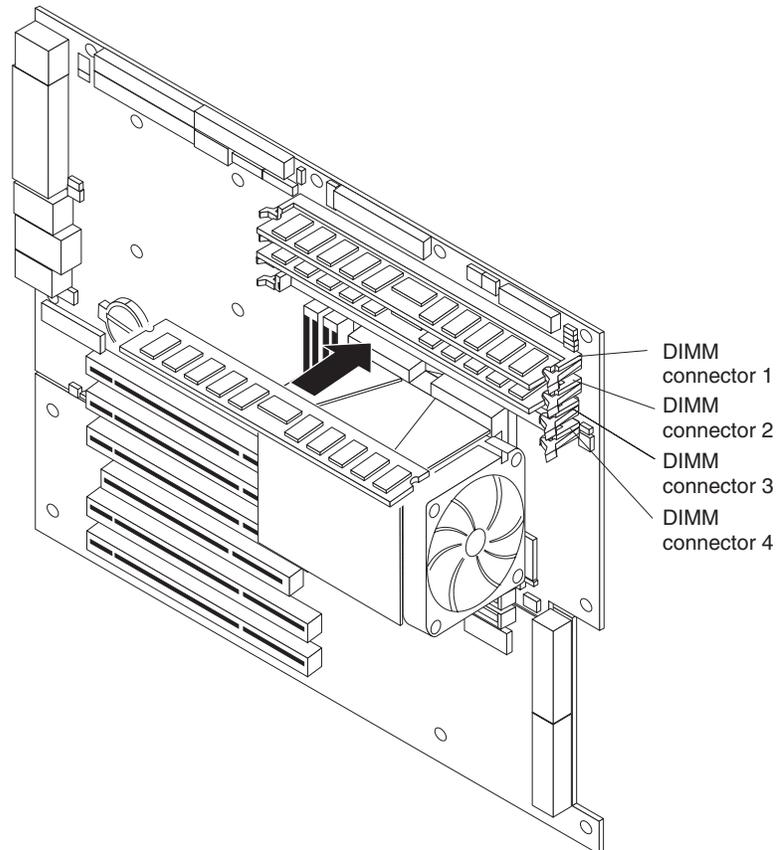

Figure 17. Installation of DIMMs 1-4
11. Insert the DIMM into the connector (see Figure 17). Firmly press the DIMM straight down into the connector by applying pressure on both ends of the DIMM simultaneously. The retaining clips snap into the locked position when the DIMM is firmly seated in the connector. If there is a gap between the DIMM and the retaining clips, the DIMM has not been correctly installed. Open the retaining clips, remove the DIMM, and then reinsert it.